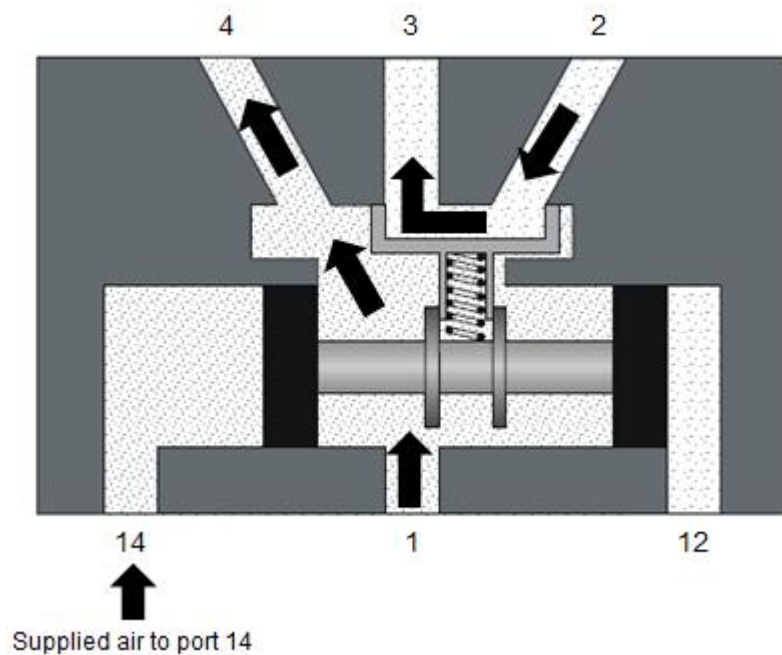

FIG 4.
- B. If compressed air is supplied to control port 14 (Y), the flat slide is moved to the right by the spool. In this position, the supply air will flow from port 1 (P), through port 4 (B), to the cylinder. The return air from the cylinder will flow from port 2 (A), to port 3 (R), and into the atmosphere. (Fig 4)